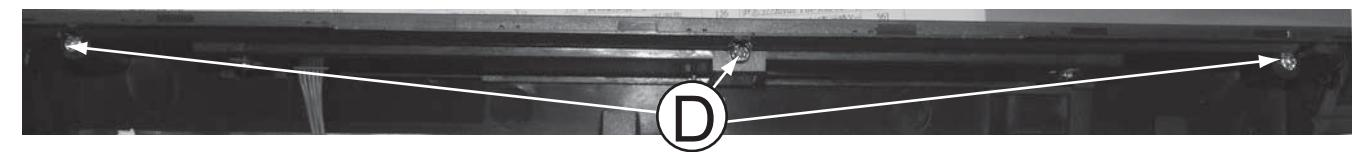

Figure 4
- 1) Loosen 3 screws "D" to remove the Touch Board as shown in figure 4.